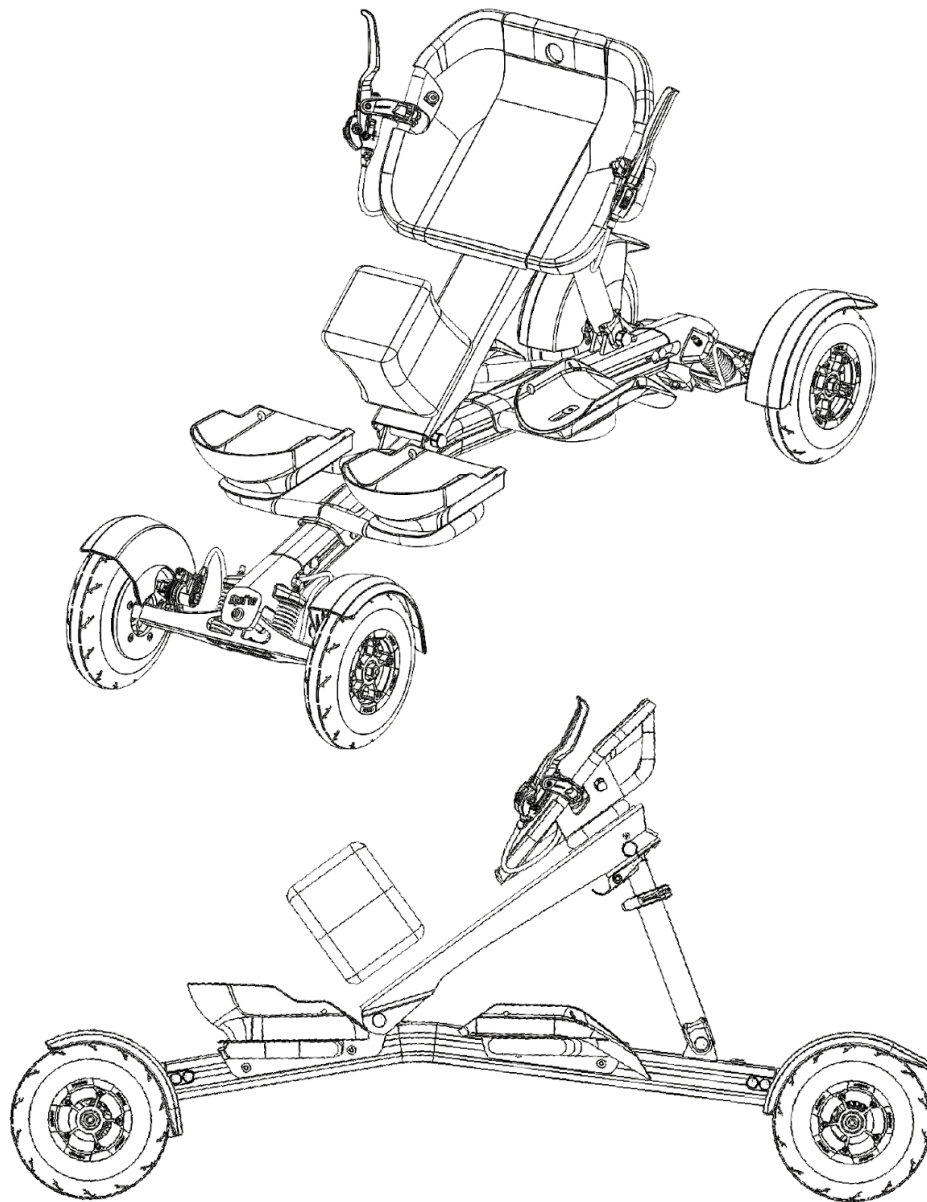

Figure 3.7.2 - Additional Equipment: Spacer Cushion positioned on Spike
- Some people naturally tighten their thigh muscles while seated on Spike. This can lead to the knees pushing toward each other and sitting uncomfortable or falling out of the knee supports. To prevent this, Spike can be equipped with a spacer cushion that keeps the thighs and knees separated (see figure 3.7.2). The